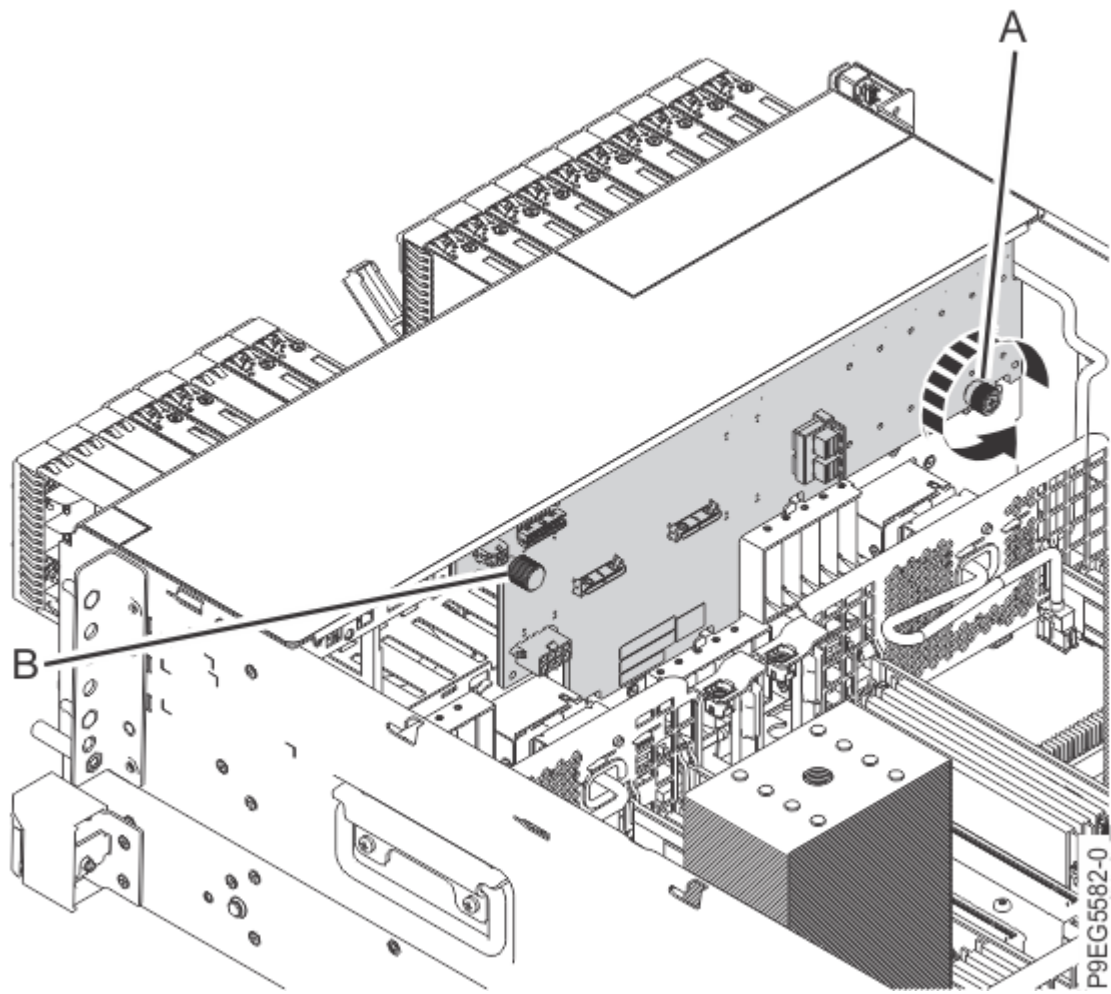

Figure 51. Loosening the NVMe drive backplane screw
33. Carefully unscrew the captive thumbscrew **(A)** of the NVMe drive backplane until fully loose as shown in Figure 51 on page 54.